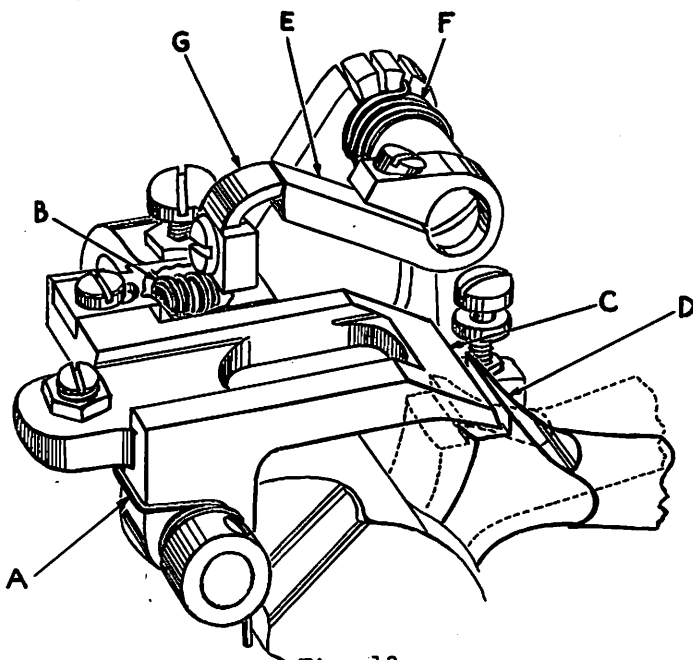

Fig. 13
Another feature not mentioned in the adjusting instructions is the action of springs (A and B, Fig. 13). Spring (A) engages the driving pawl (C) into ratchet lever (D) when dog (E) is tripped by the movement of the actuating lever. It is important that this spring be strong enough to overcome the tension of spring (F) that holds dog (E) in position.
EXAMPLE: As ratchet lever (D, Fig. 13) is returning to its lowest position and the knife bar is coming up from the clip, pawl lever extension (G) contacts dog (E), which has returned to rest position by action of spring (F). Spring (B) is then compressed until the knife bar comes to rest against its stop screw. Pawl (C) is then disengaged by the action of spring (B) overcoming the tension of spring (A).